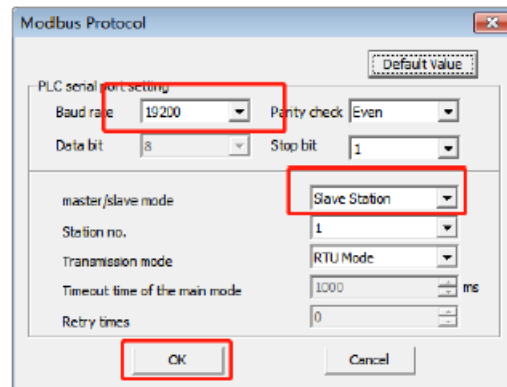

Figure 4-2 Parameter configuration
2. Click “Modbus Settings” to enter the communication parameters configuration, click “Confirm” after configuration to complete the communication parameters configuration As shown in Figure 4-2.
3. The VC-RS485 expansion communication module can be used as either a slave station or a master station, and you can choose according to your needs. When the module is a slave station, you only need to configure the communication parameters as shown in Figure 4-2; when the module is a master station, please refer to the programming guide. Refer to Chapter 10: Communication Function Usage Guide in “VC Series Small Programmable Controller Programming Manual”, which will not be repeated here.